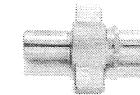

Figure 1
- Connect the tractor to the trailer using a male and female quick coupler. (Figure 1)